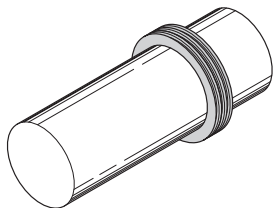

Fig. 20-5 Inner seal.
1. Slide the inner (inboard) seal ring onto the shaft. It should slide freely into position (Fig. 20-5).